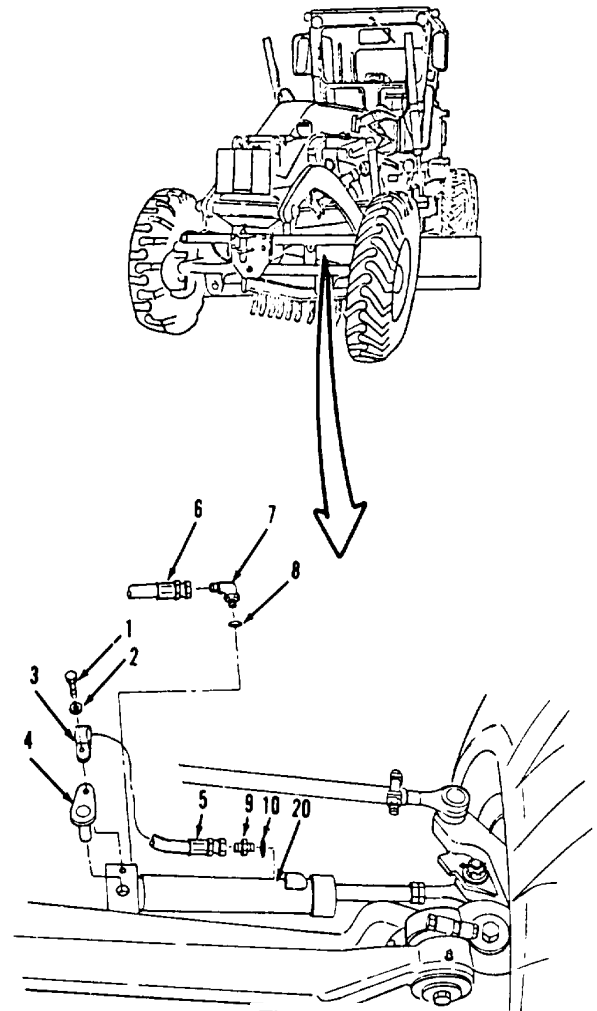

Figure 8-13.
1. Remove bolt (1), washer (2), clip (3) and pin (4, Figure 8-13) from top of axle bracket on left side of front axle.